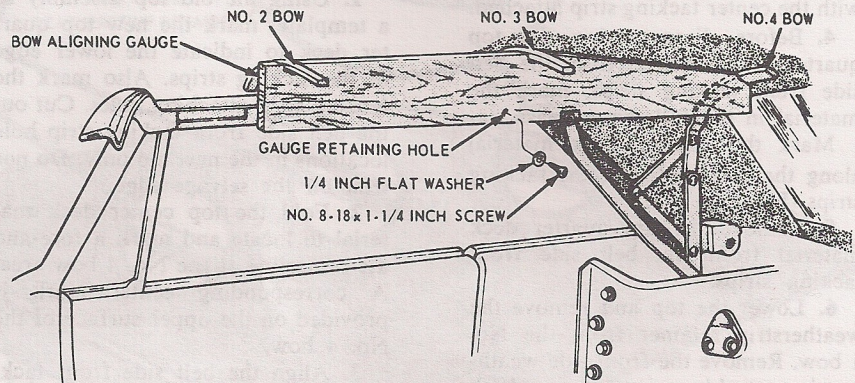

FIG. 10—Bow Locating Gauge Installation
8. Remove both side rail coat hanger hooks and install the two fabricated bow alignment gauges (Figs. 9 and 10). Retain each gauge with a No. 8-18 x 1 1/4-inch pan-head screw and washer (Fig. 10).